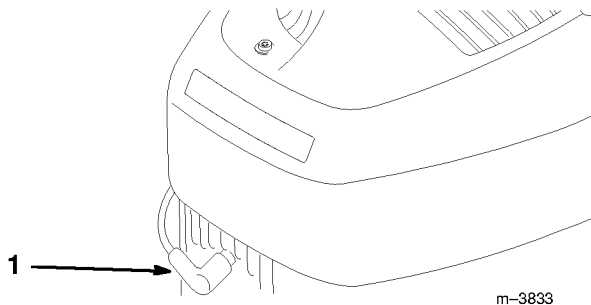

Figure 22
1. Pull wire off spark plug (Fig. 22). Remove spark plug and clean with a wire brush, removing carbon build-up. **DO NOT SAND BLAST.** Check condition of plug for cracks and damaged or worn electrodes. Replace if necessary.
3. Install spark plug by hand, then torque to 180 in.-lbs. (15 ft.-lbs.) (20 N·m) (Fig. 22).
2. Disconnect spark plug wire (Fig. 22).
1. Disconnect spark plug wire (Fig. 22).
5. Reconnect spark plug wire when maintenance is completed (Fig. 22).